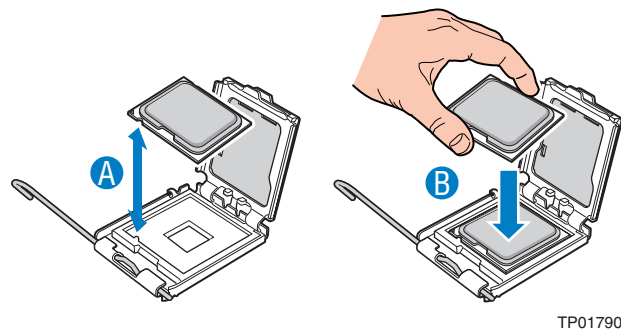

Figure 8. Installing the Processor
8. Orient the processor with the socket so that the processor cutout matches the socket notch (see letter “A” in Figure 8), and insert the processor into the socket (see letter “B” in Figure 8).